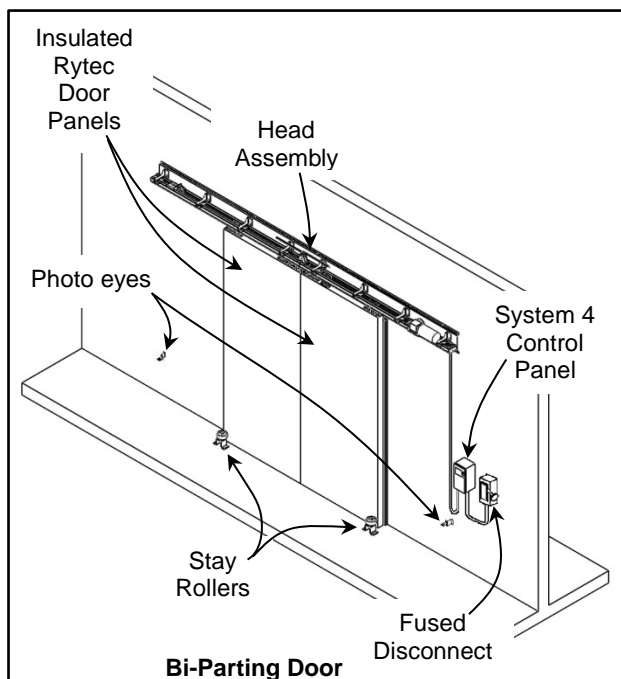
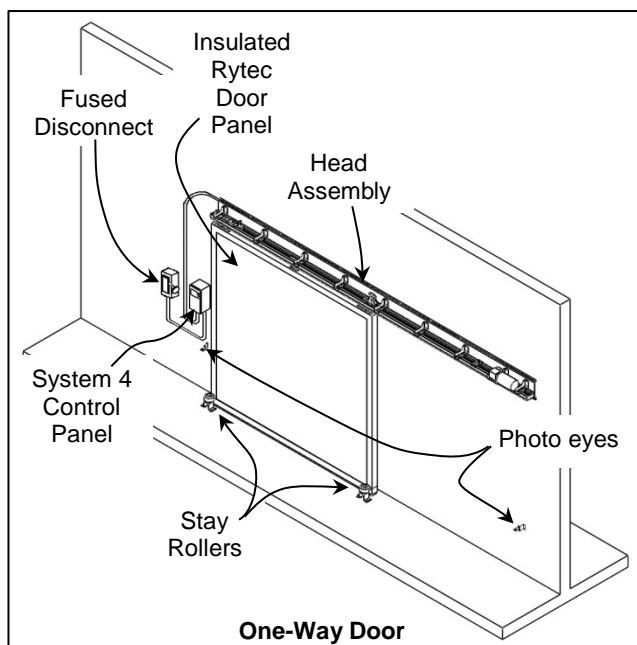
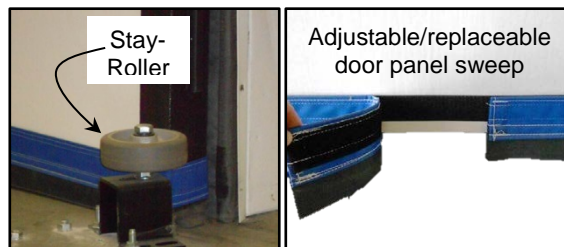

Figure 2
Figure 3
Figure 5
Figure 2 - Figure 5 show the location of the major components of the door and the general placement of the associated control sub-assemblies for a typical installation.
*NOTE: Figure 2 and Figure 3 show the front side of the door. Left and right are determined when facing/viewing the front side of the door. This is the side that the door assembly is mounted on/the same side the head assembly is on. All views shown on this page are showing the "Front" side of the door assembly.*